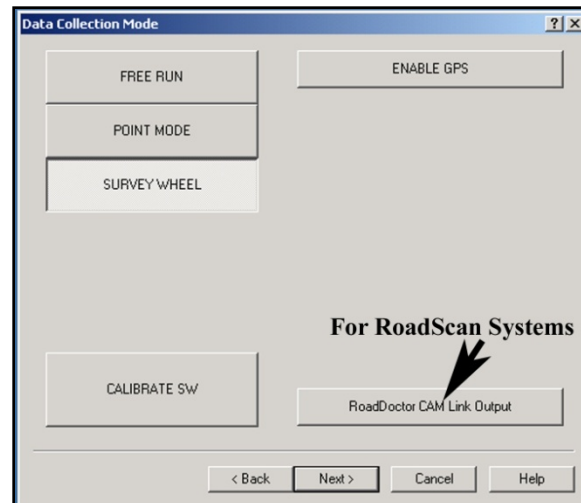

Figure 34: Data Collection Mode window.
- All data entry on this screen is optional. If you do not wish to add notes, click Next >. A window will open with the heading Data Collection Mode (Figure 34).